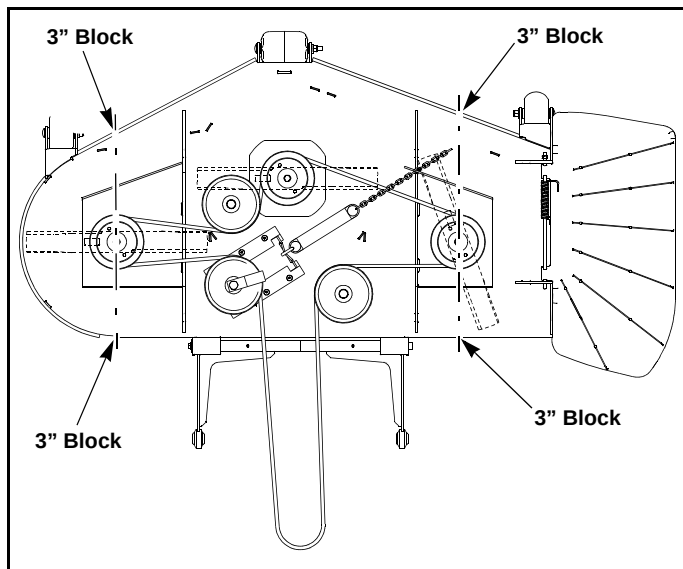

Figure 7-1
3. Place 3" high deck support blocks (two stacked 2" x 4" blocks can be used to create a 3" [7.62cm] high support) at the locations as shown. Figure 7-1